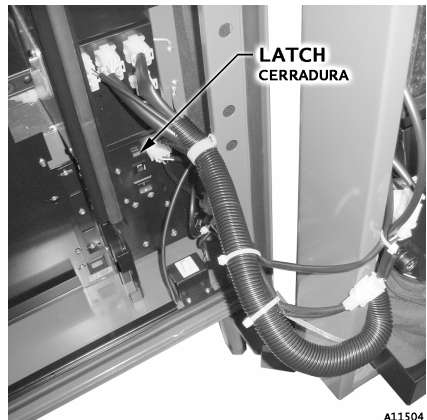

Figure 15. Power Panel Latch
1. Unlatch and open the Power Panel. See Figure 15.